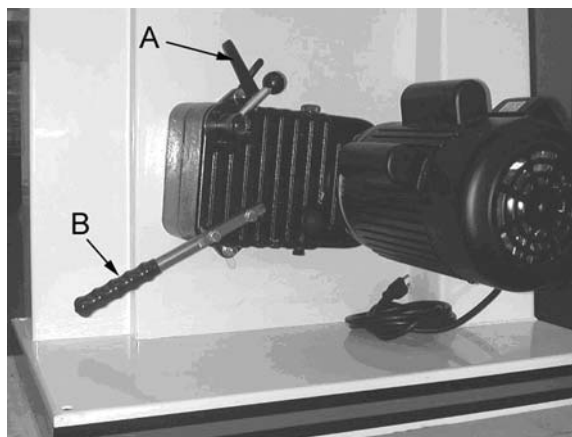

Figure 29
Referring to Figures 29 and 30:
2. Set the belt tension by lightly pressing down on the lever (B, Figure 29). The weight of the motor/gearbox should put enough tension on the belt. You just want to push down lightly to take up any slack.
3. Tighten the handle (A).
1. Release belt tension by loosening the handle (A, Figure 29).